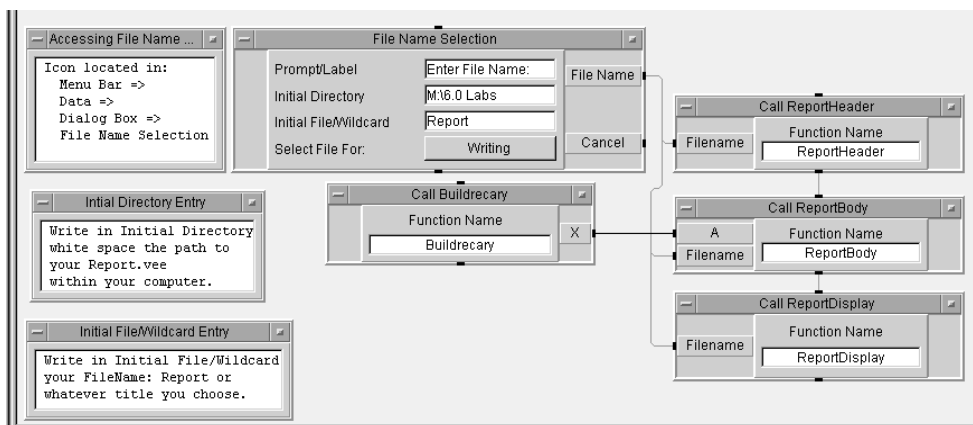

Figure 14.8. Report.vee using File Name Selection
20. Add to your existing Lab 14.1 the File Name Selection object found as indicated in Figure 14.8. Follow the instructions given in the three note pads.
Note: The program may search for your report. Be certain the Initial Directory shown in Figure 14.8 is modified to agree with the Report location in your computer.